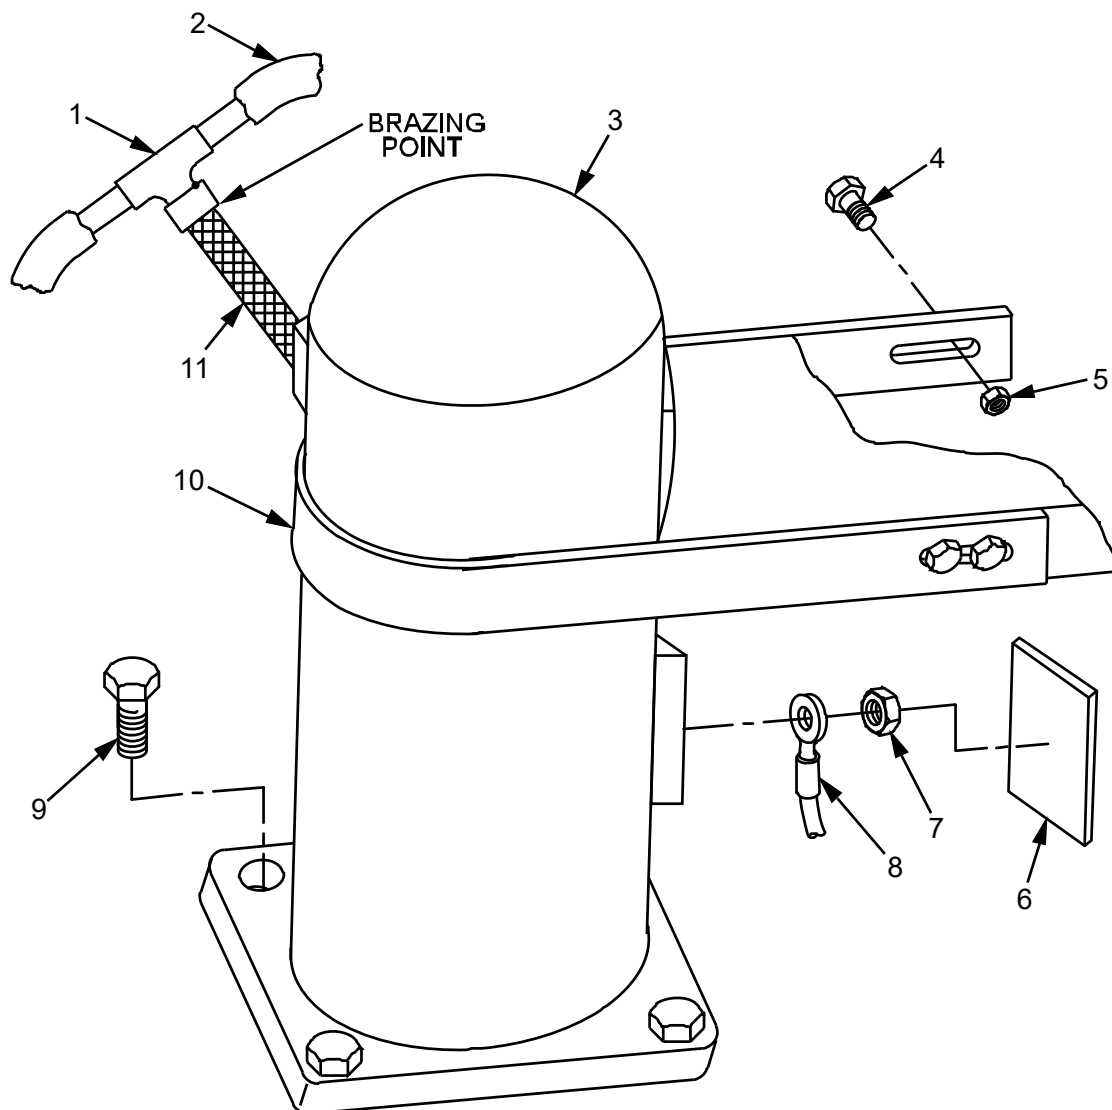

Figure 1. Compressor Replace.
1. Install compressor (Figure 1, Item 3) through the area vacated when ECU control panel was removed.
2. Install compressor mounting band (Figure 1, Item 10). Loosely install four bolts (Figure 1, Item 4) and lock nuts (Figure 1, Item 5) through compressor mounting band (Figure 1, Item 10).
3. Loosely install four bolts (Figure 1, Item 9) into base of compressor (Figure 1, Item 3) securing compressor (Figure 1, Item 3) to base of ECU.
4. Remove cover (Figure 1, Item 6) to allow access to electrical connections (Figure 1, Item 8) of compressor (Figure 1, Item 3).
5. Remove and retain nuts (Figure 1, Item 7) that secure electrical connections (Figure 1, Item 8) to compressor (Figure 1, Item 3). Install electrical connections (Figure 1, Item 8) (see Table 1) and install hardware.
6. Install vibration dampener (Figure 1, Item 11) onto associated plumbing of compressor (Figure 1, Item 3) and braze vibration dampener (Figure 1, Item 11) into place. If necessary, refer to WP 0115 for brazing procedures.
10. Install insulation (Figure 1, Item 2) onto compressor (Figure 1, Item 3) and surrounding pipes.
3. Remove insulation (Figure 1, Item 2) from vibration damper (Figure 1, Item 11) and surrounding pipes to safely allow brazing.
5. Debraze vibration damper (Figure 1, Item 11) and remove. If necessary, refer to WP 0115 for brazing procedures.
1. Install vibration damper (Figure 1, Item 11) onto associated plumbing of compressor (Figure 1, Item 3) and braze vibration damper (Figure 1, Item 11) into place. If necessary, refer to WP 0115 for brazing procedures.
5. Install insulation (Figure 1, Item 2) onto compressor (Figure 1, Item 3) and surrounding pipes.